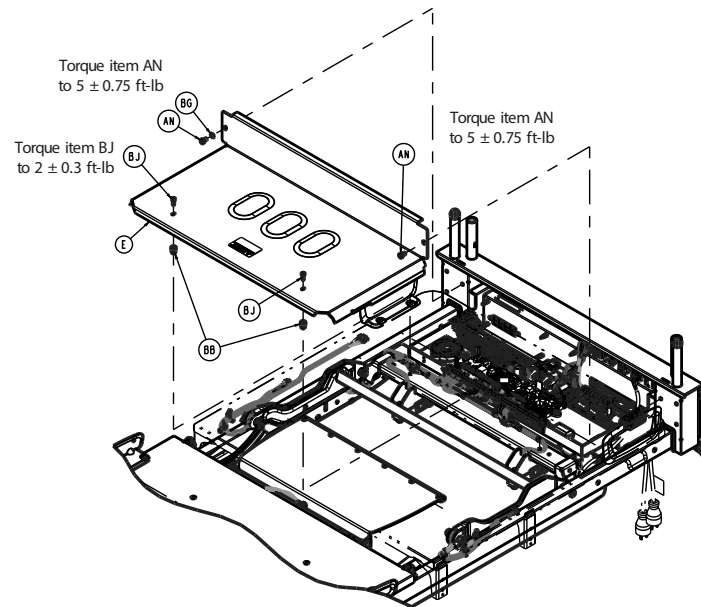
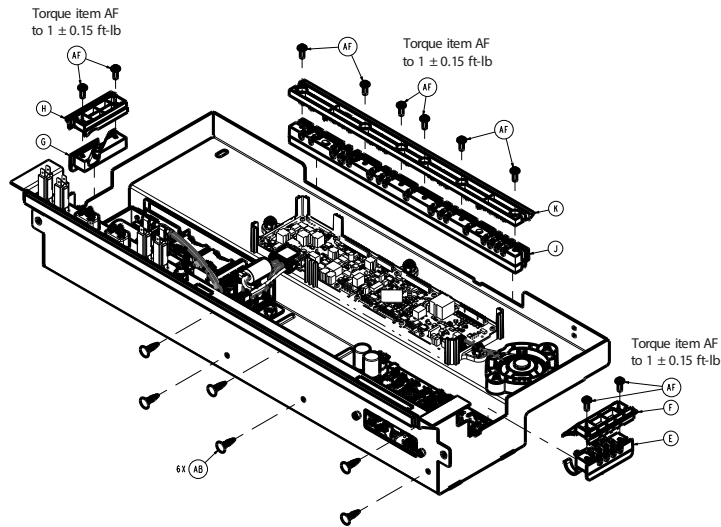

Figure 20 – Removing the cover
Figure 21 – Removing the cable
8. Using a T25 Torx driver, remove the two screws (BJ) that secure the electrical cover (E) to the litter (Figure 20). Save the screws.
9. Using a T27 Torx driver, remove the two screws (AN) and washers (BG) that secure the electrical cover (E) to the litter and remove the cover. Save the screws, washers, and cover.
10. Using a T20 Torx driver, remove four wire clamp (K) screws (AF) from left to right (Figure 21).
10. Using a T20 Torx driver, remove the four wire clamp (K) screws (AF) from right to left (Figure 21).